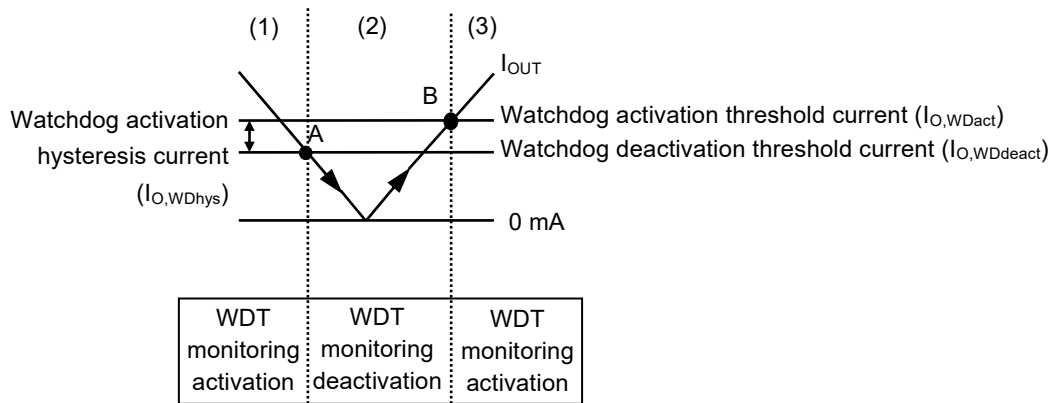

Figure 38 Autonomous Watchdog Operation Function
- (1) When I_{OUT} of the regulator is the watchdog activation threshold current ($I_{O,WDact}$) or more, the WADJ pin voltage (V_{WADJ}) is higher than the reference voltage (V_{ref}), and the output of the comparator (C1) is "H". At this time, the watchdog timer is activated.
- (2) When I_{OUT} decreases to the watchdog deactivation threshold current ($I_{O,WDdeact}$) (point A in **Figure 38**) or less, V_{WADJ} decreases to V_{ref} or less and the output of C1 is "L". At this time, the watchdog timer deactivates the monitoring. Even if I_{OUT} increases, the watchdog timer continues the monitoring deactivation when I_{OUT} is within less than $I_{O,WDact}$
- (3) If I_{OUT} further increases to $I_{O,WDact}$ (point B in **Figure 38**) or more, V_{WADJ} increases to V_{ref} or higher and the output of C1 is "H". And then, the watchdog timer initiates the monitoring activation.